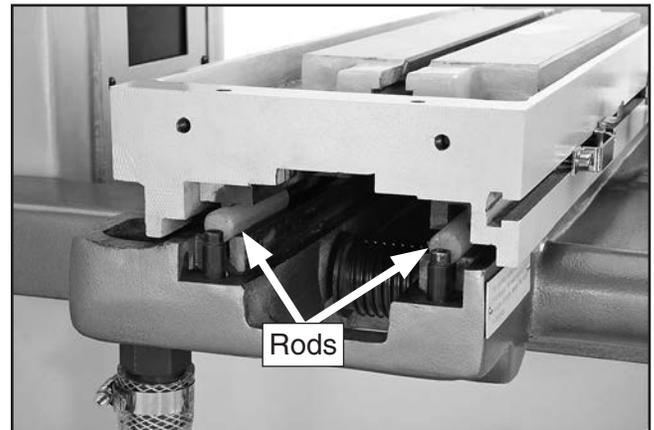

Figure 15. Plastic rods used for shipping or storage purposes.
4. Store plastic shipping rods (see **Figure 15**) for future use when storing or moving machine to protect ways.